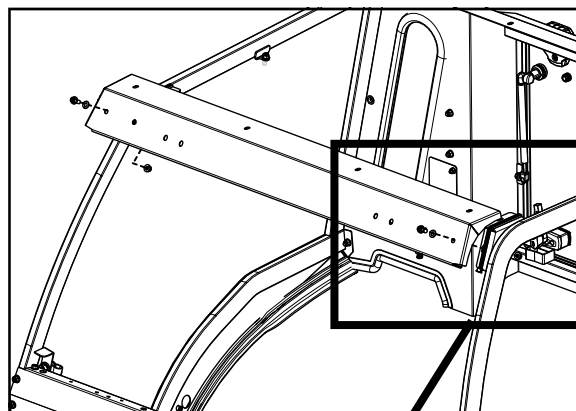

Fig. 8.1 (Windshield Support Installation)
8.1 Install windshield support. See Fig. 8.1 & 8.2.